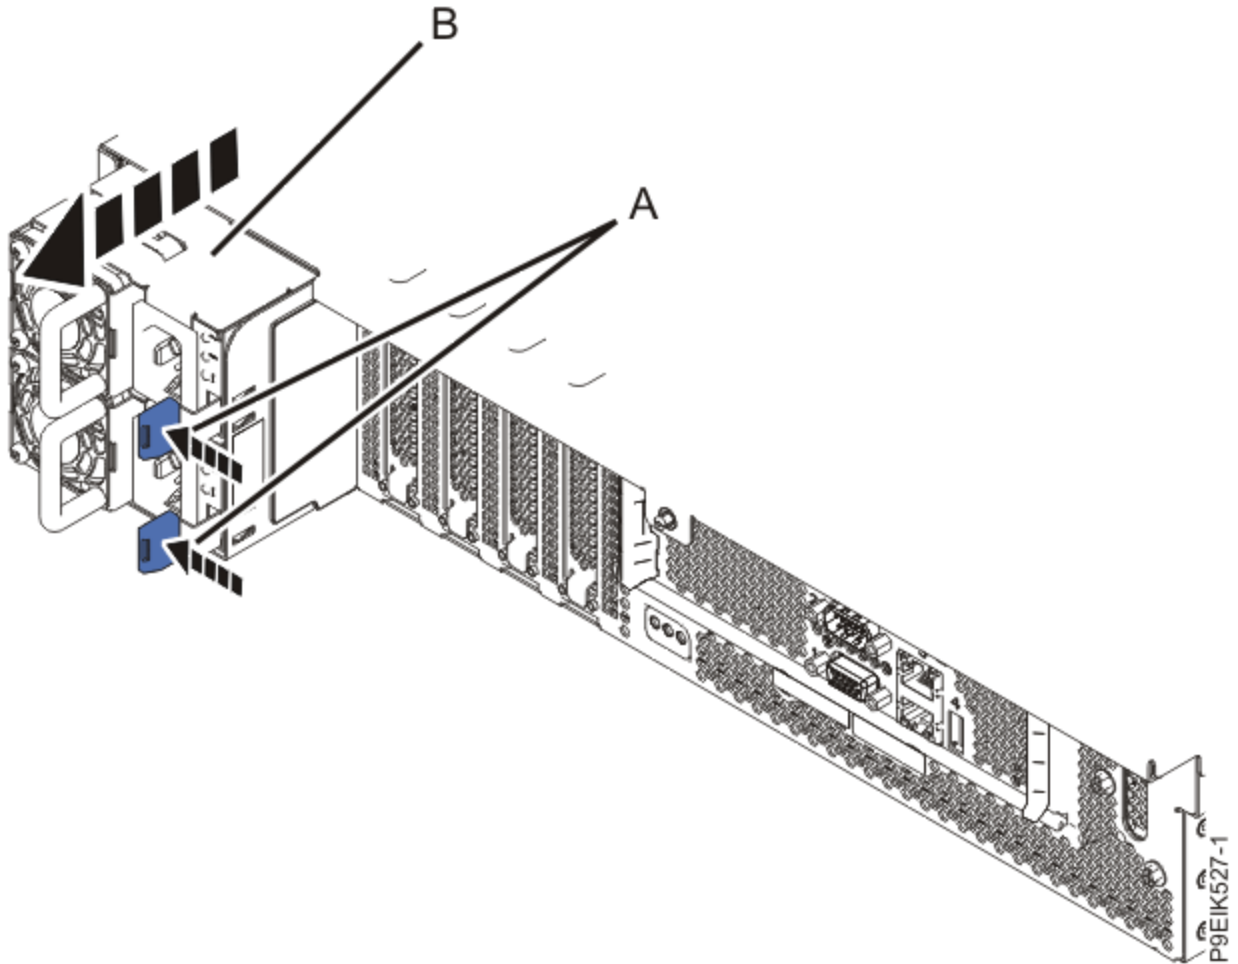

Figure 100. Removing the power supplies from the system
3. Remove the power supplies from the system as shown in Figure 100 on page 113.